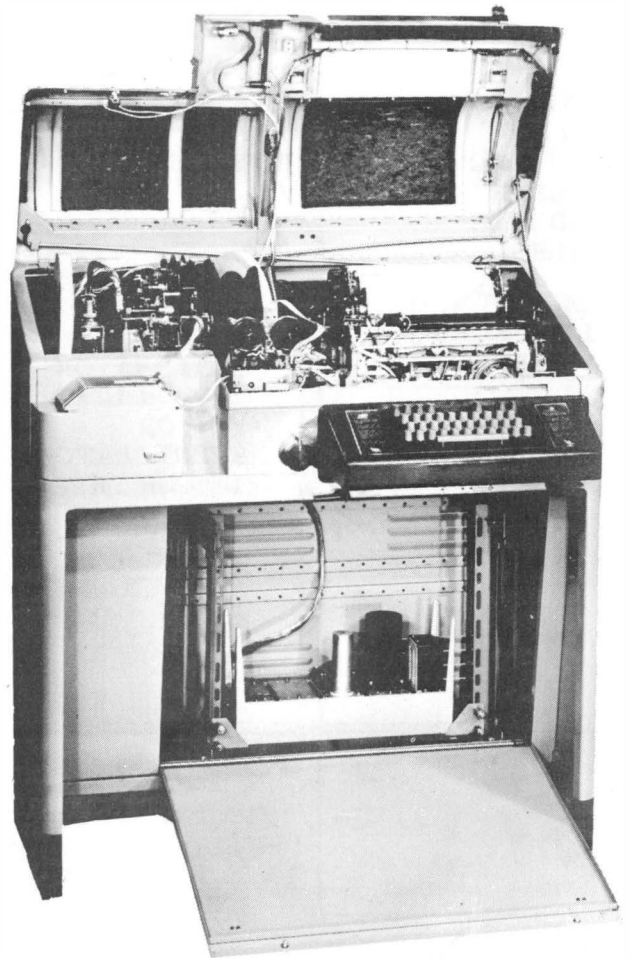

Figure 1 - Typical Automatic Send-Receive (ASR) Set
An illustration of a typical 28 ASR Set is shown in Figure 1. The general arrangement of the components of the 28 ASR Set is shown in diagram form in Figure 2.
6.01 Mount the tape chute (supplied with the ASR teletypewriter cabinet) friction tight on the transmitter distributor base using the two screws, two lockwashers, and two washers provided (see Figures 1, 2, and 5).